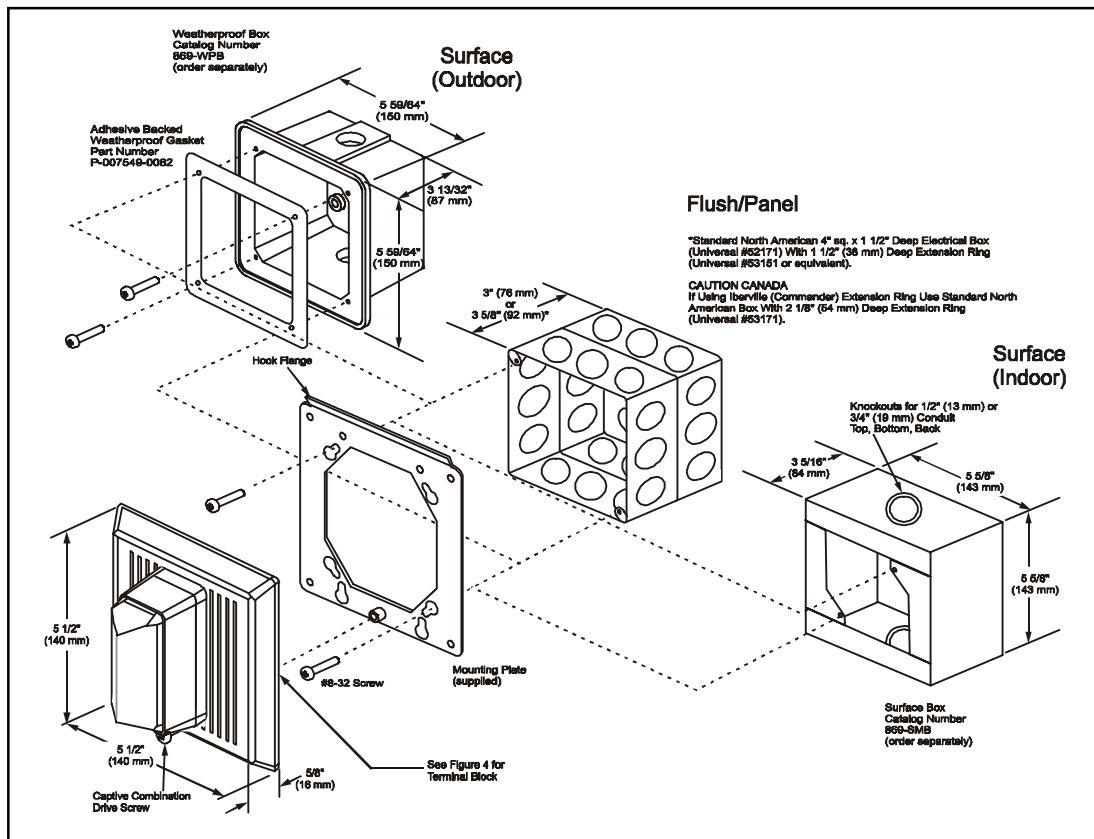

Figure 1. Detailed View
1. Select mounting method as detailed in Figure 1 and install the electrical box (not supplied) using suitable hardware.
NOTE: Be sure hook flange is facing outward as shown in Figure 1.
6. Mount the horn/strobe assembly on the mounting plate (Figure 1).